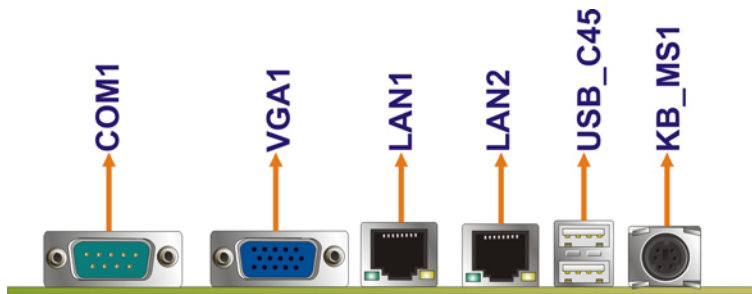

Figure 4-24: 3308440 External Peripheral Interface Connector
Figure 4-24 shows the 3308440 epic external peripheral interface connector (EPIC) panel. The 3308840 EPIC panel consists of the following:
- CN Location: See **Figure 4-24** (labeled 1)
CN Location: See Figure 4-24
- CN Location:** See Figure 4-24 (see 2)
- CN Location:** See Figure 4-24